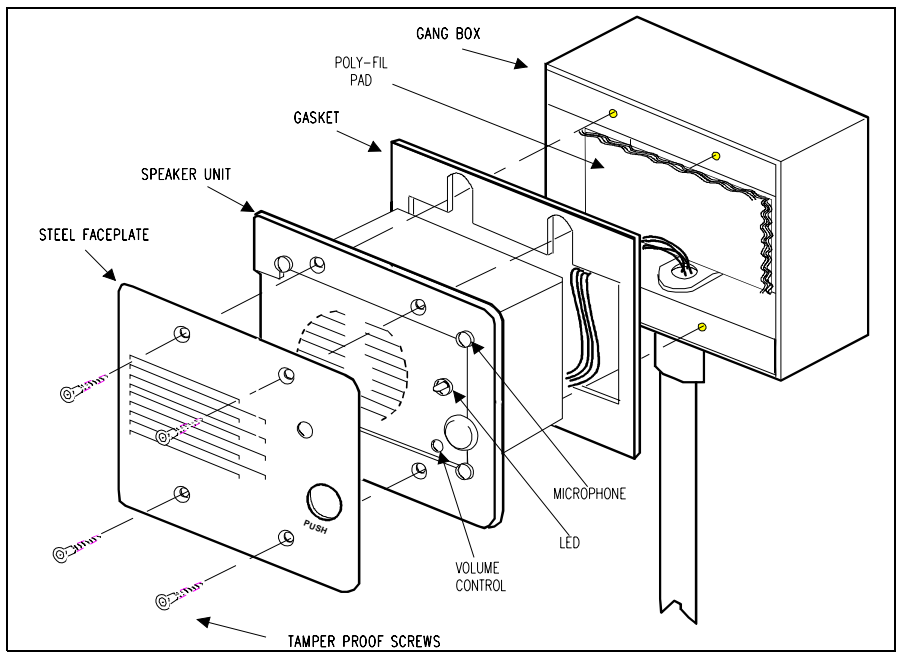

Figure 3. Attach Station Door Phone and Faceplate
4. Test the system by having an assistant call the designated extension number of the Station Door Phone. Adjust the speaker volume (see Figure 3) to an appropriate level.
5. Place poly-fil pad in designated position for good sound quality (see Figure 3).